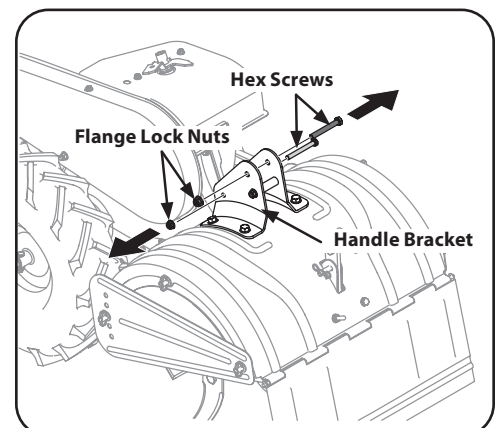

Figure 2-2
1. Remove the top two hex screws and flange lock nuts from the handle mounting brackets, but do not remove the bottom hex screw and flange lock nut. See Figure 2-2.